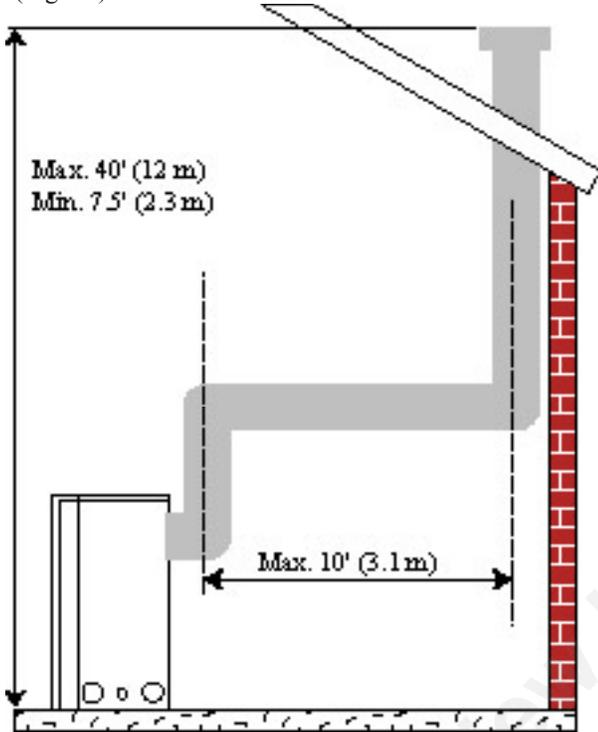

Fig. 29
- Vertical installations up to 40' (12 m) in height. Up to a 10' (3.1 m) horizontal vent run can be installed within the vent system using a maximum of two 90° elbows. (Fig. 29)